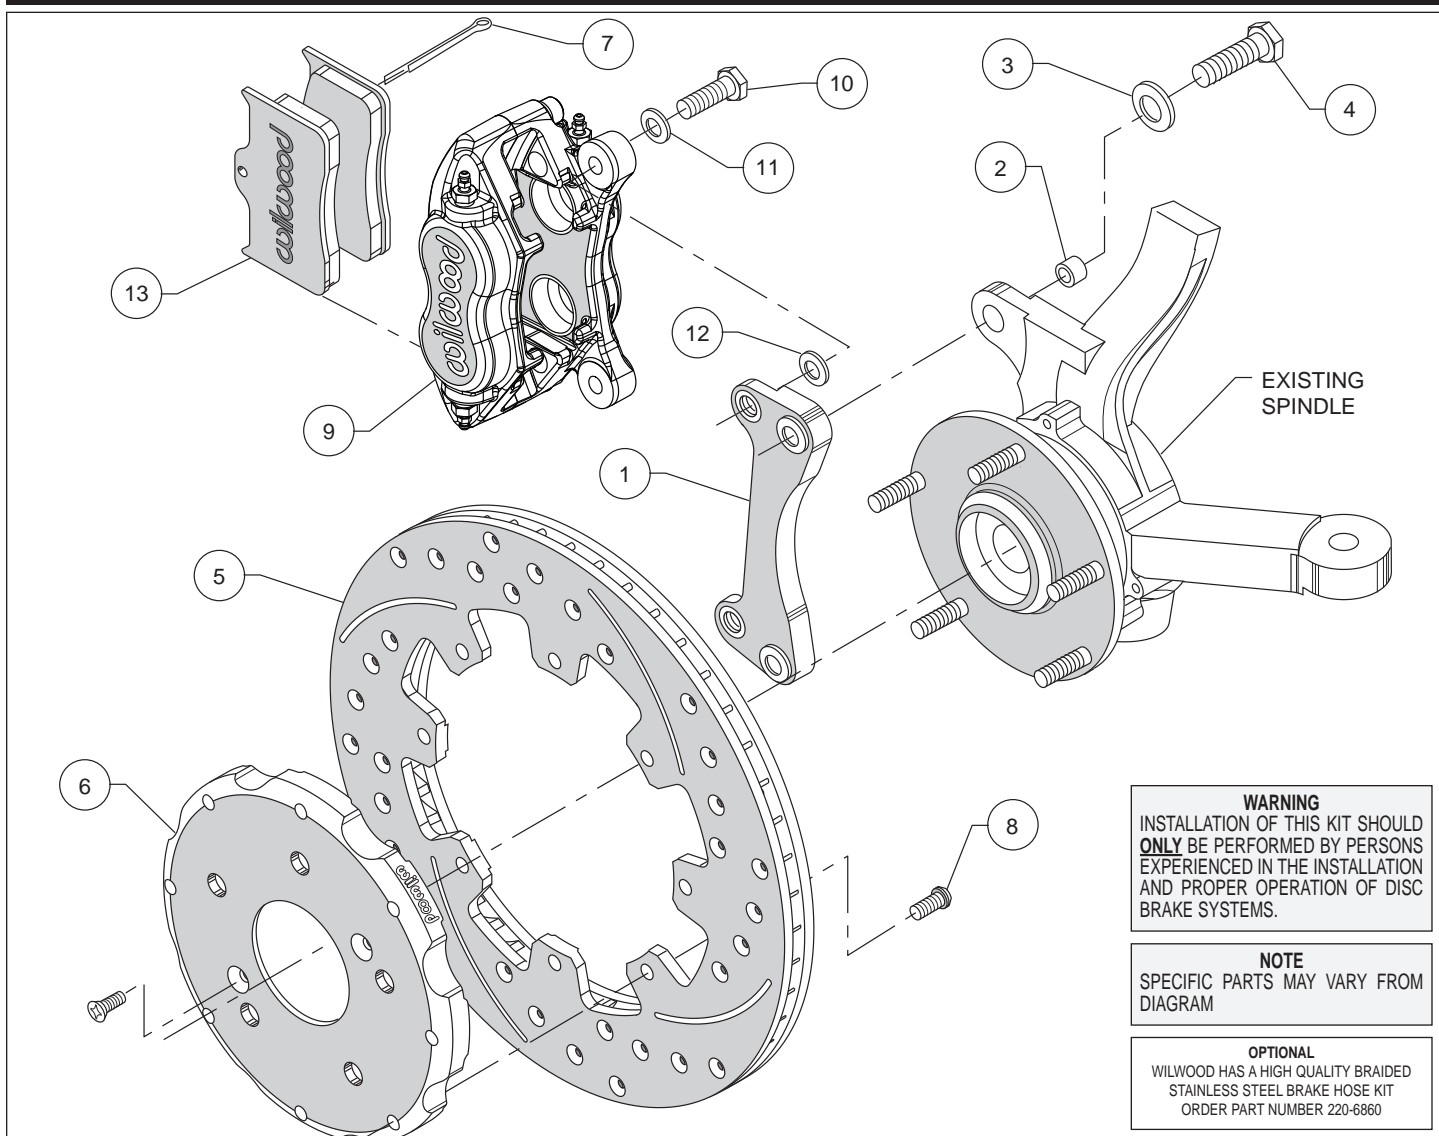
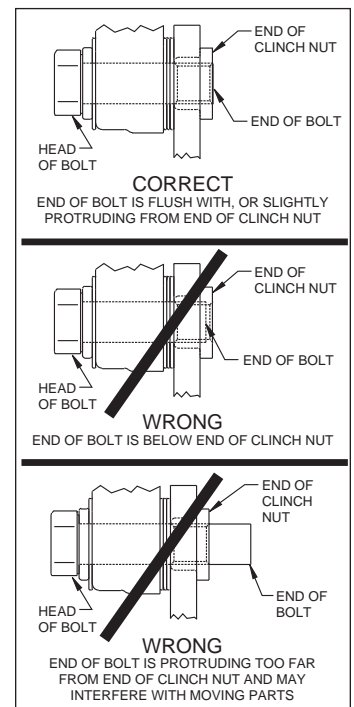

Figure 1. Typical Installation Configuration, Left Hand Application Shown
Figure 3. Clinch Nut Engagement Diagram
Assembly Instructions (numbers in parenthesis refer to the parts list and Figure 1 on the preceding pages): **CAUTION:** All mounting bolts must fully engage clinch nuts. Be sure to check that all bolts are either flush or protruding through flanged side of clinch nut after shimming, Figure 3.
- Insert one sleeve (2) into each hole of the spindle “ears”, Figure 1. Orient the caliper mount bracket (1) as shown in Figure 1, and install using bolts (4) and washers (3). Ensure that the flanged heads of the clinch nuts in the bracket are facing outboard, Figure 1. Temporarily tighten the mounting bolts. **NOTE:** The bracket must fit squarely against the mount bosses on the upright. Inspect for interference from casting irregularities, machining ridges, burrs, etc. Remove bolts one at a time, apply red *Loctite*® 271 to the threads and torque to 60 ft-lb.
- Orient the rotor (5) and the hat (6) as shown in Figure 1 and Photo 1. Attach rotor to hat using bolts (8). Using an alternating sequence, apply red *Loctite*® 271 to the threads, and torque to 25 ft-lbs.
- **NOTE:** Please reference the caution statement at the beginning of the assembly instructions. Mount the caliper (9) onto the caliper mounting bracket (1) using bolts (10) and washers (11), as shown in Figure 1. Initially place one .035” thick shim (12) on each bolt between the caliper and the bracket, Photo 2. Temporarily tighten the mounting bolts and view the rotor (5) through the top opening of the caliper. The rotor should be centered in the caliper, Photo 3. If not, adjust by adding or subtracting shims between the bracket and the caliper. Always use the same amount of shims on each of the two mounting bolts. **NOTE:** The end of each bolt must be flush with or slightly protruding from the head of the clinch nut, as shown in Figure 3. If necessary place spare shims between washer (11) and caliper mounting ear to achieve the proper clinch nut engagement. Once the caliper alignment and clinch nut engagement are correct, remove the bolts one at a time, apply red *Loctite*® 271 to bolt threads, and torque to 40 ft-lb.